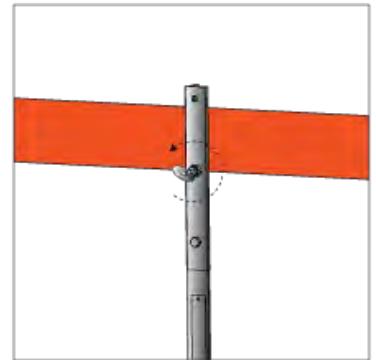

Figure 65
- ii) Clamp the post securely to all 3 straps. (Fig. 65)